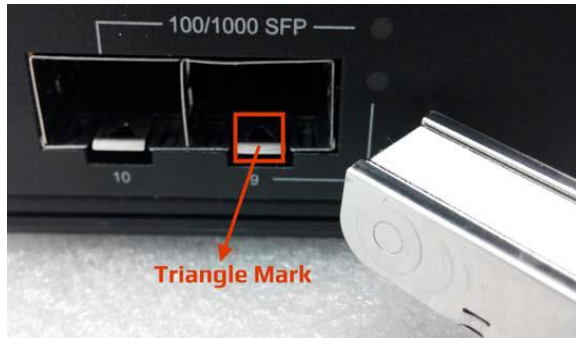
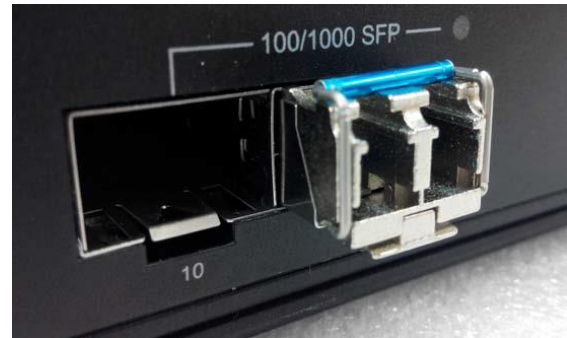

Figure 2.7 - Transceiver to the SFP Slot
Figure 2.8 - Transceiver Inserted
- **Step 1** - Insert the SFP transceiver module into the SFP slot as shown below in *Figure 2.7*. Notice that the triangle mark is at the bottom of the SFP slot. *Figure 2.8* shows the SFP transceiver module was inserted.